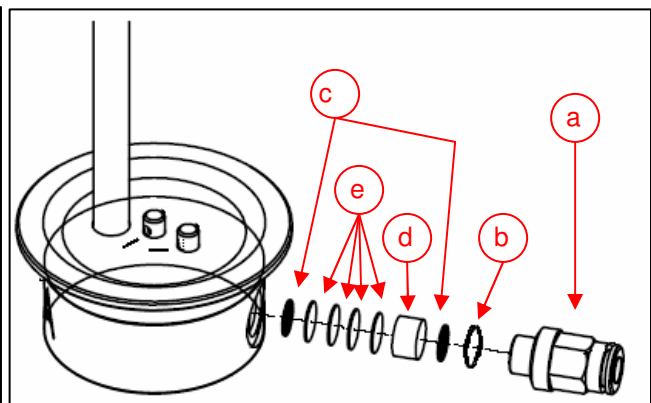

Fig. 10 - Filter in Tank 25 – 70 µm
- Add an O-Ring (fig 10 b) at 25-70 $\mu$ m Tank only.